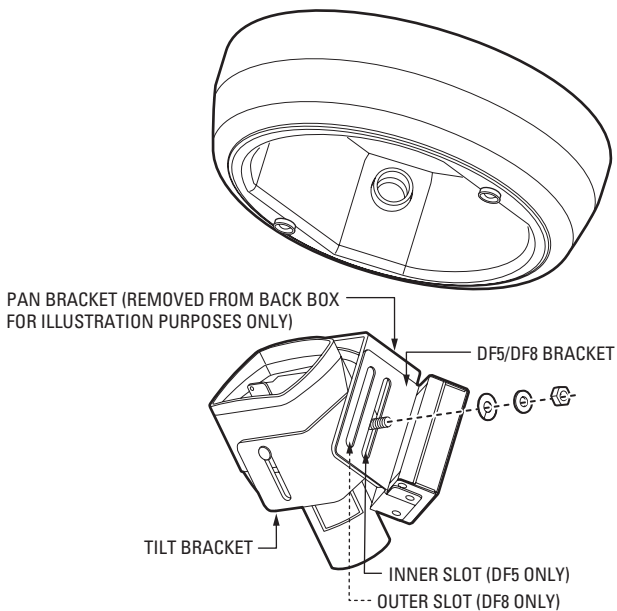

Figure 17. Mounting FT8301A Transmitter into DF5/DF8 In-Ceiling Dome
8. Mount the transmitter into the back box as follows (refer to Figure 17):
NOTE: In Figure 17, the pan bracket is removed from the back box for illustration purposes only. You do not need to remove the pan bracket from the back box.